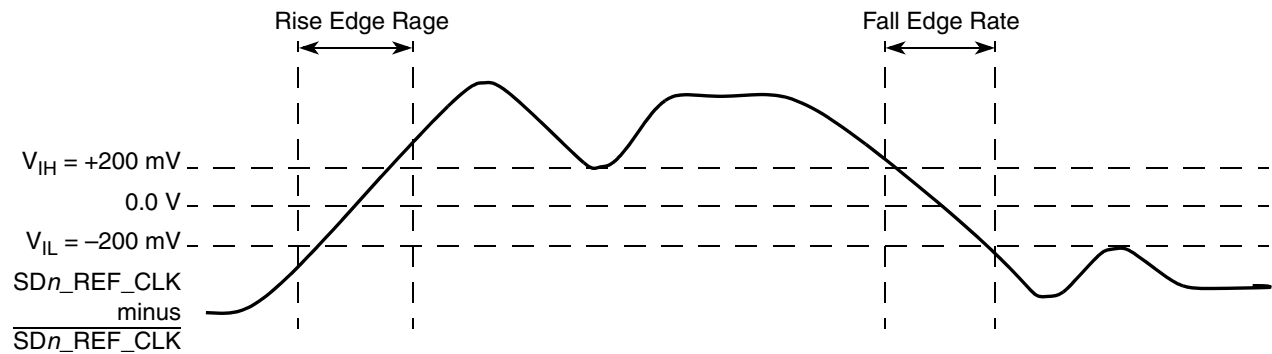

Figure 49. Differential Measurement Points for Rise and Fall Time
- 3. Measured from −200 mV to +200 mV on the differential waveform (derived from SDn_REF_CLK minus SDn_REF_CLK). The signal must be monotonic through the measurement region for rise and fall time. The 400 mV measurement window is centered on the differential zero crossing. See Figure 49.